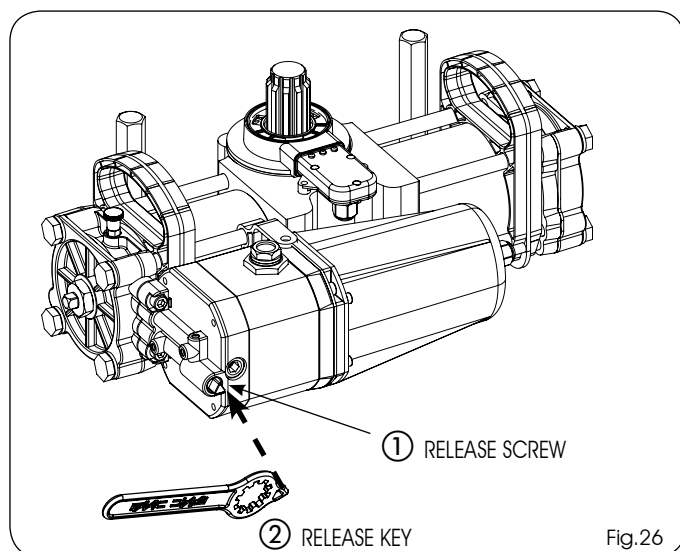

Fig.26
If the gate has to be moved manually due to a power cut or fault of the automated system, use the hydraulic release device with the release key (Fig.26 ref. ②):
- 2) Turn the release screw (Fig.26 ref.①) inserting the triangular recess of the supplied key (Fig.26 ref. ②):